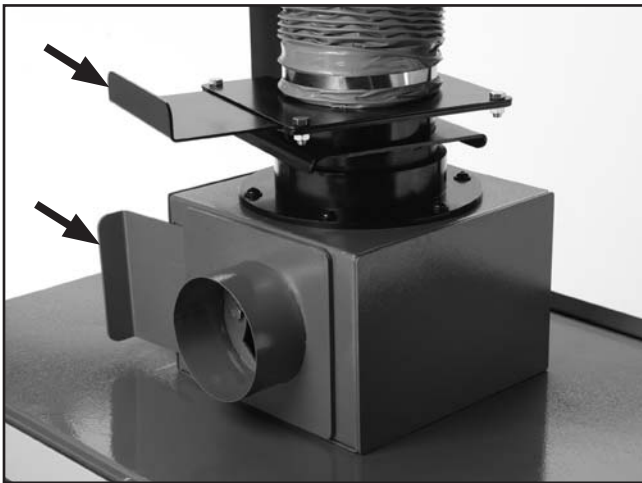

Figure 8. Ducting blast gates.
4. Completely open both blast gates on the ducting arm (**Figure 8**).